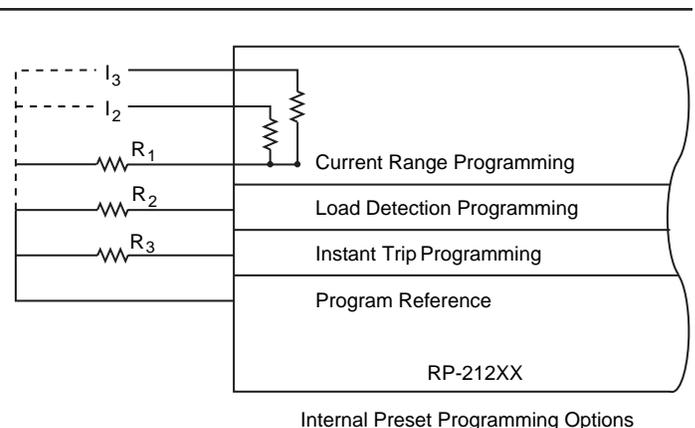
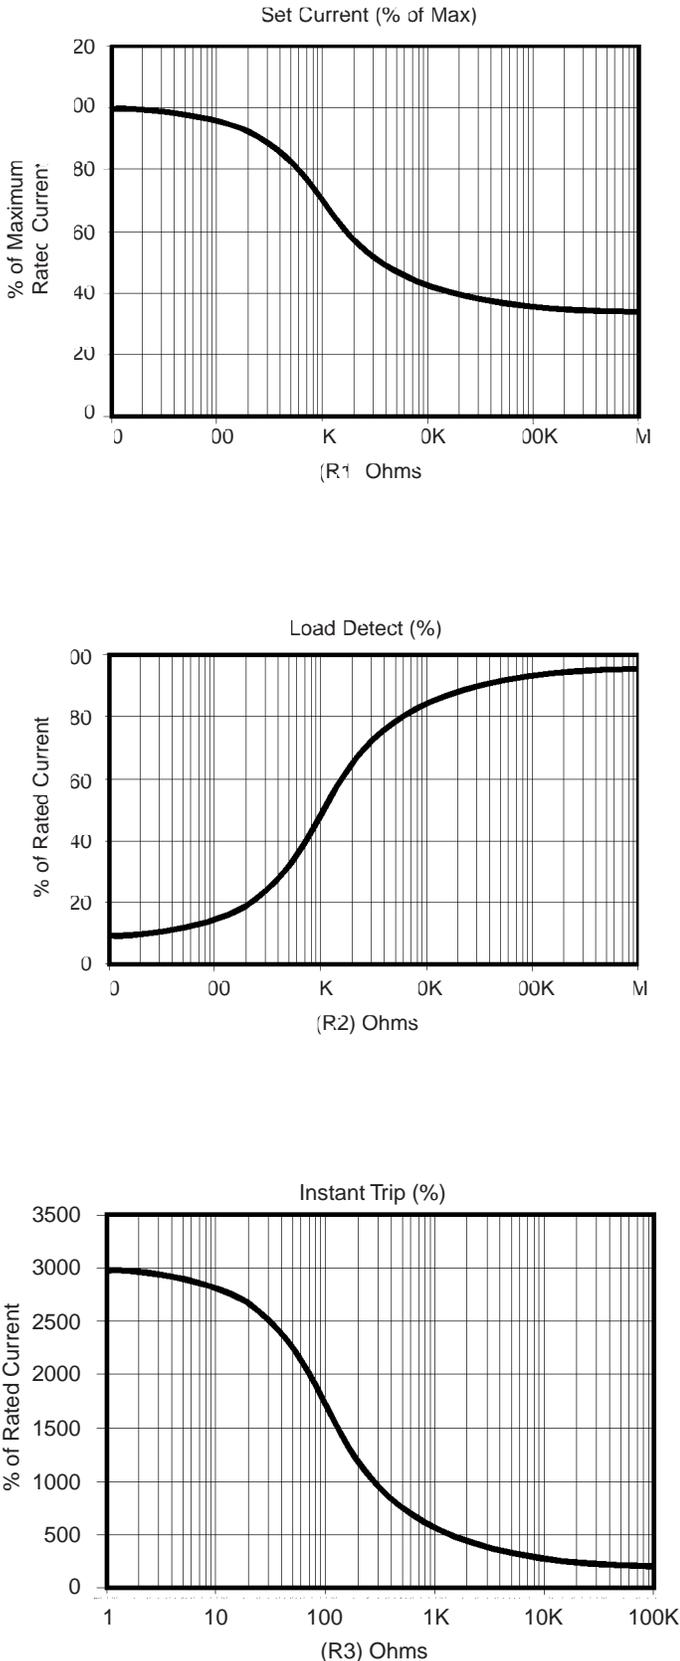
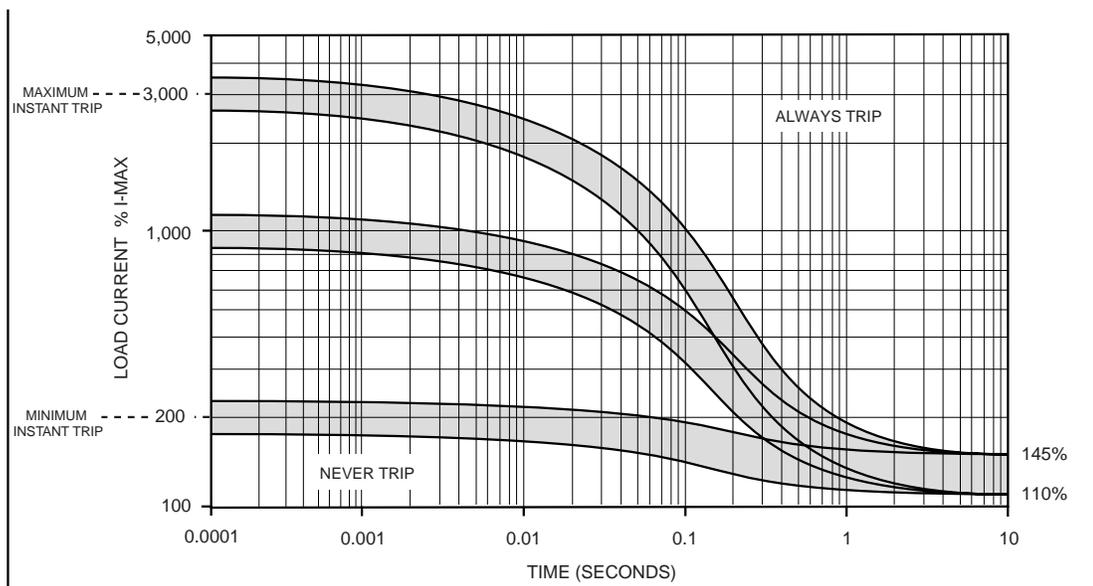

FIGURE 3. RP-212XX SERIES PROGRAMMING CONNECTIONS
FIGURE 4. STAR Series PROGRAMMING CURVES
FIGURE 5. TYPICAL TRIP CHARACTERISTIC SETTINGS
The two TTL/CMOS compatible outputs, Status 1 and Status 2, provide status information on the switch current (load current) and switch state, respectively. Status 1 will be at a logic high when the switch current is less than the programmed Load Detection value - see FIGURE 4 for programming information. When the switch current is greater than the programmed Load Detection value, Status 1 will be at a logic low. Status 2 reflects the state of the switch. When the switch is closed, Status 2 will be at a logic high and when the switch is opened, Status 2 will be at a logic low. The combination of the states of the Control Command, Lockout Input, Status1 and Status 2 outputs provide Built-In-Test (BIT) capability. TABLE 6 shows the possible status combinations.
As in a circuit breaker, the SSPC will carry continuous current up to a certain level without tripping. For the RP-21200 series, the SSPC will not trip as long as the continuous current is less than 110% of the programmed current - see FIGURE 4 and TABLE 5 for programming information. The STAR Series are guaranteed to trip if the continuous current is greater than 145% of the programmed value. Again, like a circuit breaker, the RP-21200 series can handle short duration overloads without tripping. The I²t curve shows that time to trip is inversely proportional to the square of the current. This means that short overloads can be large without tripping but longer overloads must be small to avoid tripping. FIGURE 5 shows a typical set of I²t curves. Operation
The Instant Trip Characteristic ranges shown in FIGURE 5 are programmable as detailed in FIGURE 4. If the overload exceeds the upper Instant Trip level, the SSPC will trip regardless of the duration of the overload. The main reason for an Instant Trip level is to protect the switch from excessive short-term power dissipation but can be programmed for system considerations, if necessary.
The three standard programmable devices of the RP-212XX STAR Series are the RP-21203 (1-3 amp), RP-21209 (3-9 amp), and RP-21225 (8-25 amp). Each supports a 3:1 current rating range. Please refer to FIGURE 3 (RP-212XX Series Programming Connections), FIGURE 4 (STAR Series Programming Curves), and TABLE 5 (Preset Current Ratings for further details).
The STAR Series can be programmed for Current Rating, Instant Trip level and Load Detection Level. Figures 3 and 4, TABLE 5 and the Programming Explanation give detailed information on how to program these SSPCs.
- 2) An external resistor connected between the R1 input range programming pin and program reference pin will provide infinite resolution current setting. Reference FIGURE 4 (STAR Series Current Programming curves).
It's even easier to select an RP-21200 series SSPC for transient ratings. The STAR Series I^2t ratings are tailored to the continuous ratings so that, except for rare cases, the SSPC I^2t ratings will be below the wire's ratings. This can be verified by comparing the RP-21200 series I^2t rating in TABLE 3 against the wire's I^2t rating. Since the Instant Trip level has an effect on the shape of the I^2t curves as shown in FIGURE 5, TABLE 3 shows the STAR Series I^2t rating for three levels of Instant Trip. Simply select the RP-21200 series I^2t rating for the Instant Trip level being used and multiply by the programmed Rated Current squared to obtain the I^2t rating for the application.
- 1) STATUS 1 indicates a logic low when the load is greater than programmed load detection value. See FIGURE 4.
- 3) Any trip condition per FIGURE 5.